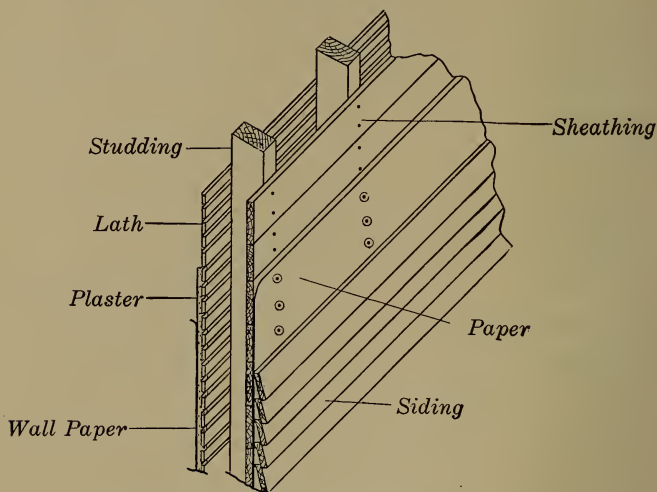

FIGURE 30. — CROSS SECTION OF THE WALL OF A HOUSE.
**54. Walls of Houses.** — Walls of houses are so constructed that they do not allow the heat to pass through them readily. Either brick, stone or lumber is used. The lumber-made house is constructed as shown in Figure 30.